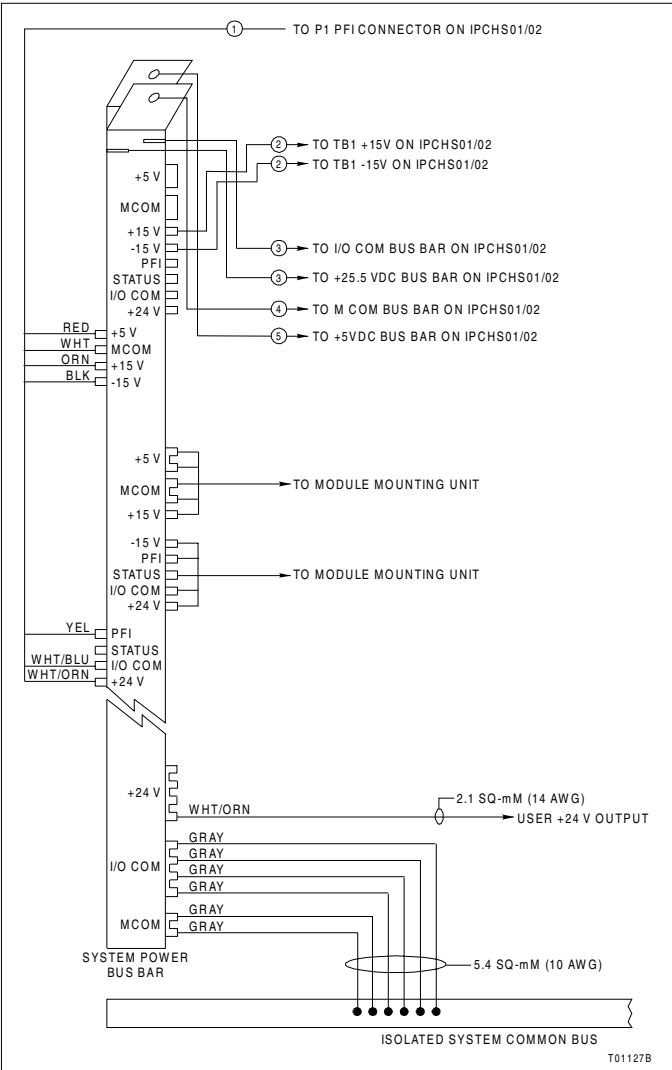

Figure A-2. System Power Bus Bar Wiring (Table A-2)
Table A-2 and Figure A-2 provide system power bus bar wiring information.
Table A-2. System Power Bus Bar Cables (Fig. A-2)
1. Refer to Figure A-2 for system power bus bar cable numbers.